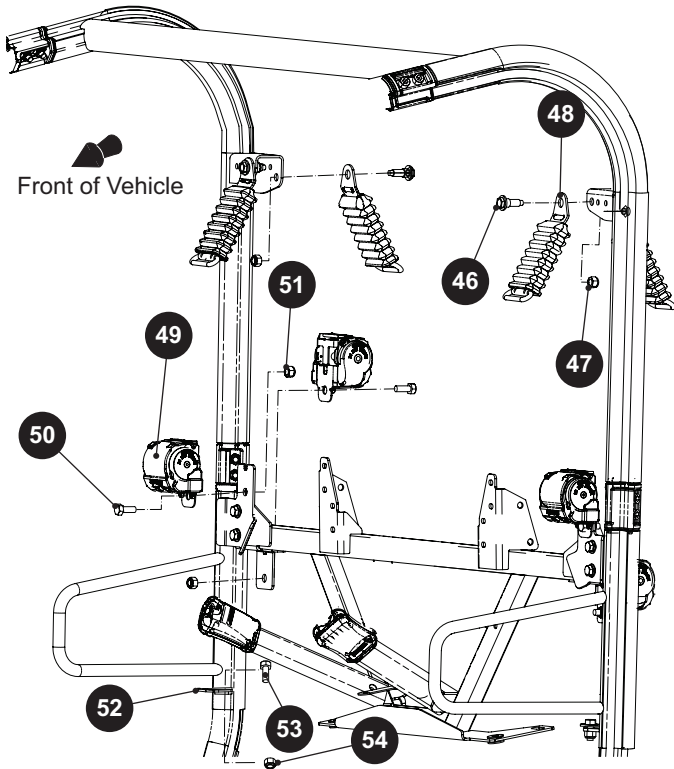

Fig. 8 Seat Belt Assembly
1. Remove the bolts (46) and nuts (47) that secure the seat belt pillar loops (48) on both sides of the vehicle.
2. Remove the bolts (50) and nuts (51) to remove the seat belt retractors (49).
3. Remove the seat belt anchors (52) by removing the bolts (53) and nuts (54) (Ref. Fig. 8).